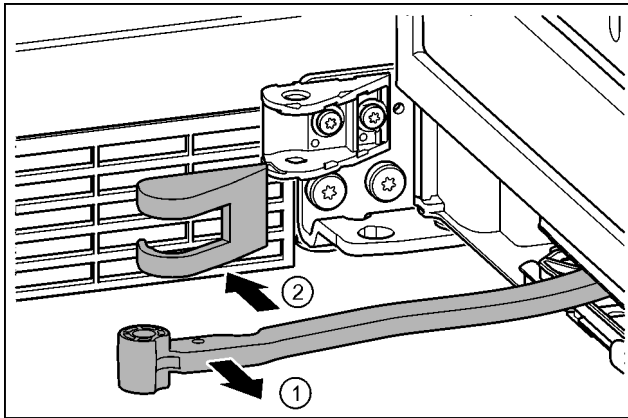

Fig. 18
- ▶ Turn the hinge in the direction of the door. Fig. 18 (1)
- ▶ Remove the bearing bracket cover. Fig. 18 (2)